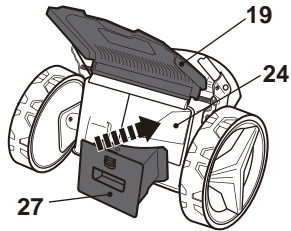

Fig. 14
1. Open the rear deflector guard (19), hold it in position and insert the mulching insert (27) into the rear discharge chute (24) (Fig. 14). Ensure the unlock button (27a) snaps in place.